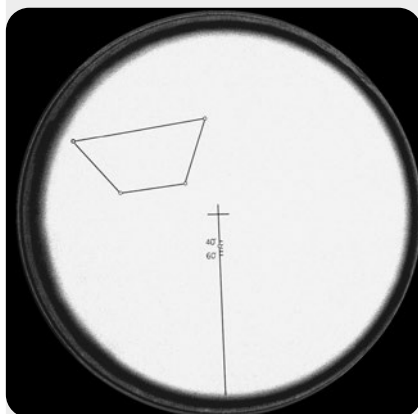

Fig. 5: View through the polar scope.
1. Look through the polar scope at a bright surface (e.g. a house wall or the sky, but never at, or near, the Sun!) and identify the trapezoid as well as the line with the small circle and the labelling (Fig. 5). If you cannot see the figures clearly, turn the polar scope eyepiece slightly to focus.